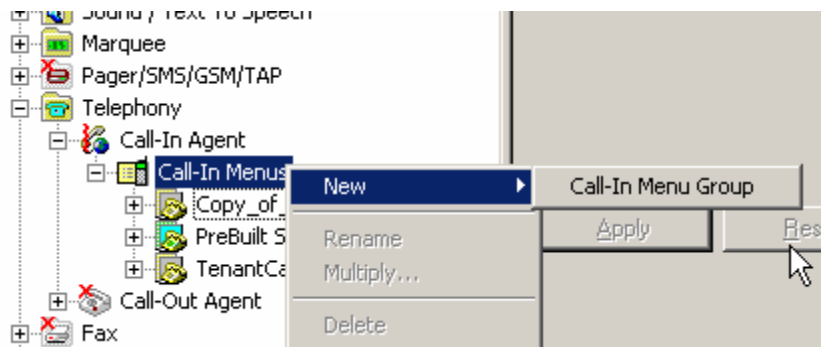

Figure 9.9. Creating a New Call-in Menu Group
- Right-click the **Call-in Menus** folder on the tree control of the Configurator and select **New > Call-in Menu Group**, as shown in **Figure 9.9**.